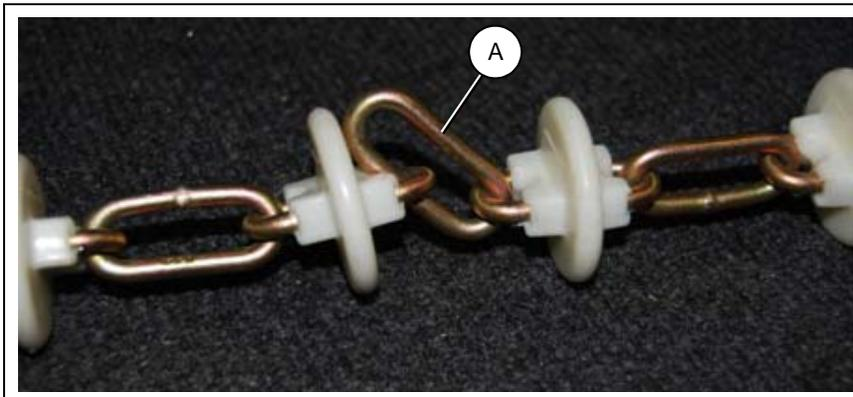

Figure 13B
**Inspect chain when installing to remove any kinks and knots from the chain. If kinks or knots get into system they can damage or break the disks. (See Figure 13B.)**